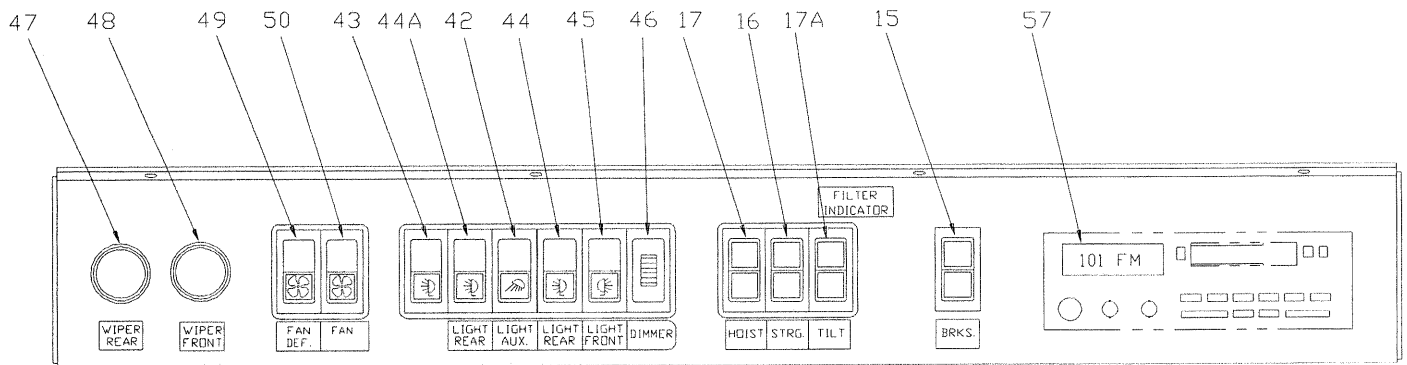

Fig. 3-14 Overhead Console
**15. Brakes & Implement System Supply Filter Indicator Lights\*** See Fig. 3-14
**16. Steering and Dump System Supply Filter Indicator Lights\*** See Fig. 3-14
See Fig. 3-14
**42. Auxiliary Lights Switch** (optional) See Fig. 3-14
**43. Strobe Light** See Fig.3-14
**44. Rear Lights Switch** See Fig.3-14
**44A. Rear Cab Lights Switch** (Optional) See Fig.3-14
**45. Front Lights Switch** See Fig.3-14
**46. Panel Lights Dimmer Control** See Fig.3-14
See Fig.3-14
**57. Stereo Cassette** See Fig.3-14 (optional)